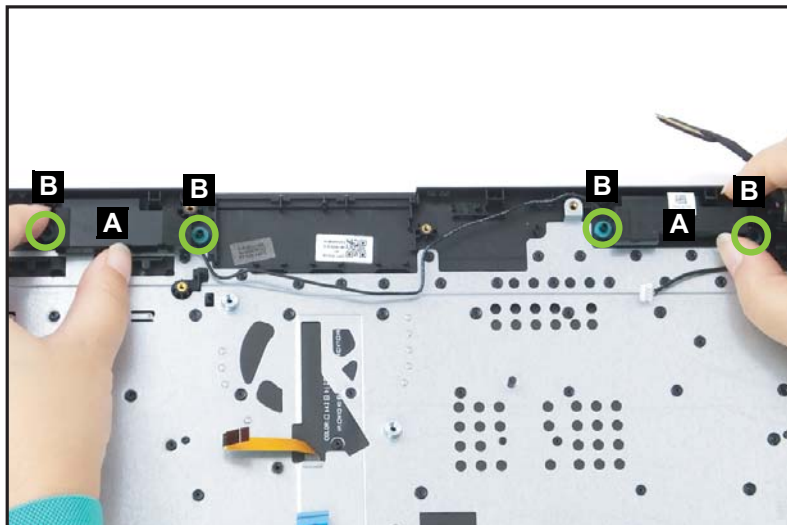

Figure 1-83. Replacing the Speaker Module
1. Place the speakers (A) to their respective compartments on the top assembly (Figure 1-83).
When installing the speaker module, make sure it is properly aligned with the guide pins (B) and placed onto its designated location as shown in Figure 1-83.